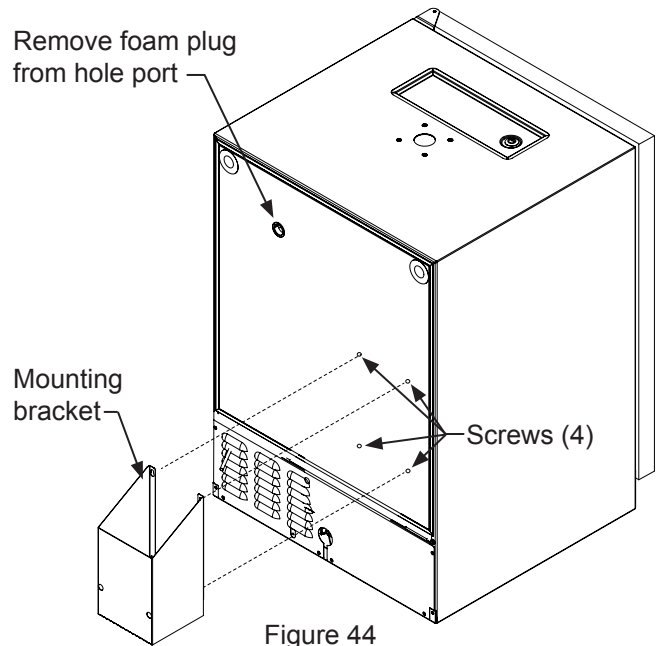

Figure 44
Mount the (4) screws (#10-32 x 3/4" flathead machine screws) provided with the bracket in the rear of the appliance, see Figure 44. Do not completely tighten. Place the keyhole slots in the flanges of the bracket over the four screws and tighten them to secure the bracket to the back of the cabinet. The bracket can also be fastened to adjacent cabinetry using the provided #10 x 3/4" wood screws.
The foam insulation plugs provided in the portholes are **CRITICAL** to proper functioning of the unit and preventing frost build up that can cause damage to the unit and/or refrigerator contents. **ALWAYS** reseal the CO₂ line porthole (Figure 44) with the provided insulation plugs once all lines have been properly installed.
Remove the foam plug from the hole port as shown in Figure 44, and feed the red CO₂ line through the rear wall and out the coil cover on the inside of the cabinet. Connect the red CO₂ line to the keg coupler.